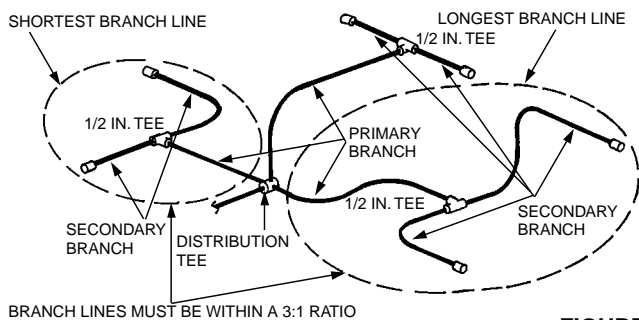

FIGURE 9B
- In an unbalanced system, the longest branch line must be no longer in length than 3 times that of the shortest branch line, with a maximum of 18 ft. total (primary plus two secondary branches). See Figure 9B.